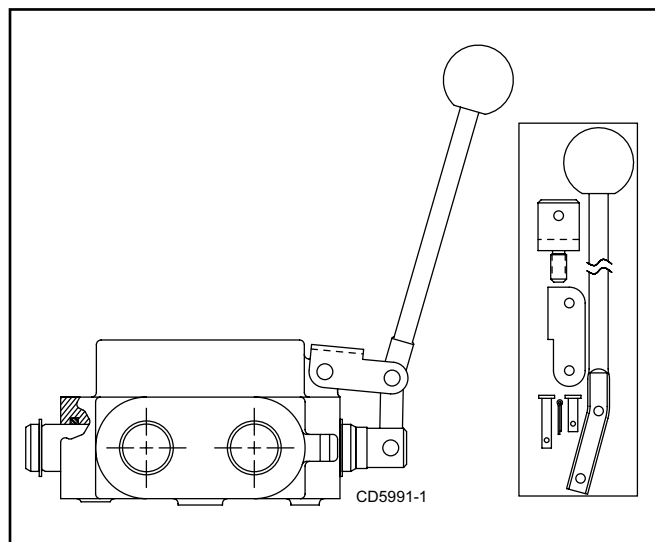

**Figure 27.** Selector Valve Hose Connections
4. Attach selector valve and bracket assembly to the A-Frame. Secure in place using two carriage bolts (25), flat washers (28), and lock nuts (29).
5. Install four adapter fittings (3) in the side ports of the selector valve (2).
6. Install four 26" hoses (5) between adapter fittings (3) in side ports of the selector valve (2) and the relief valve (11). See Figure 27 for hose connections.
7. Install two elbows (4) into the top ports of the selector valve.
8. Install two 66" hoses (9) into elbows (4) on the top of the selector valve.